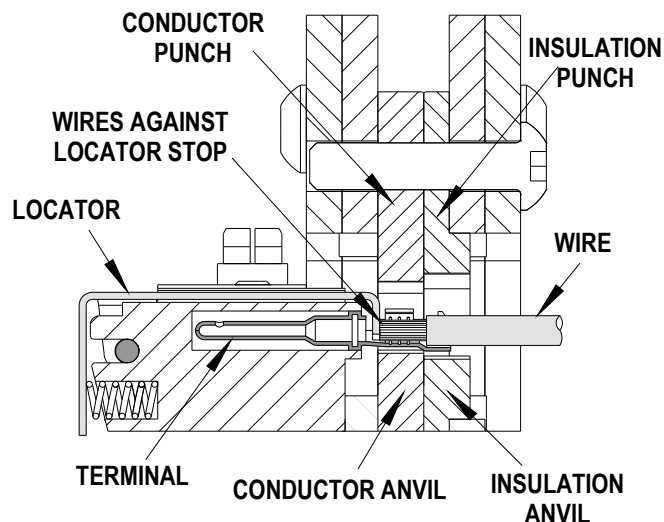
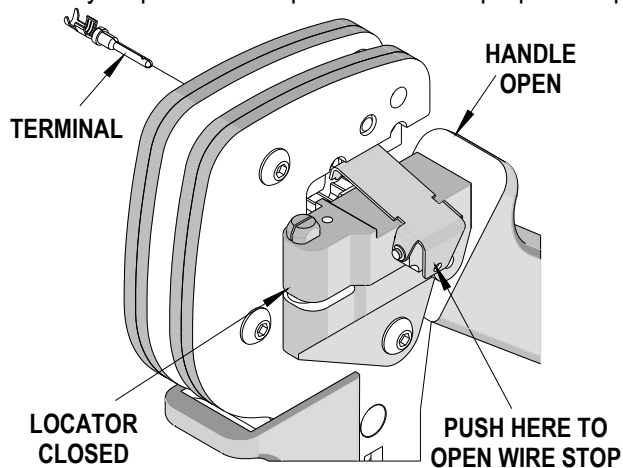

Figure 4
Figure 5
2. Swing the terminal locator away from the crimp tool shown in Figure 3. Some terminals with large insulation grips may interfere with the crimp tooling when swinging the locator into position. The terminal must then be loaded into the locator in the closed crimp position. See Figure 4.
3. Press down on the wire stop on the locator as shown in Figure 5. Insert the proper terminal into the proper nest opening. Make sure when choosing the nest opening, it will correspond with the 14, 16, or 18 profile on the hand tool. See Figure 4.
5. Insert the proper wire over the terminal. Gently touch the wire stop with the end of the wire. See Figure 5 and 6.